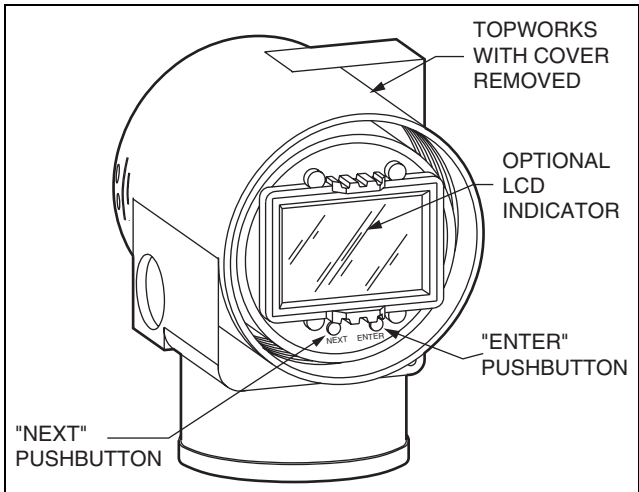

Figure 17. LCD Indicator with On-Board Pushbuttons
**Optional Liquid Crystal Display (LCD) Digital Indicator with On-Board Pushbuttons (Figure 17)**